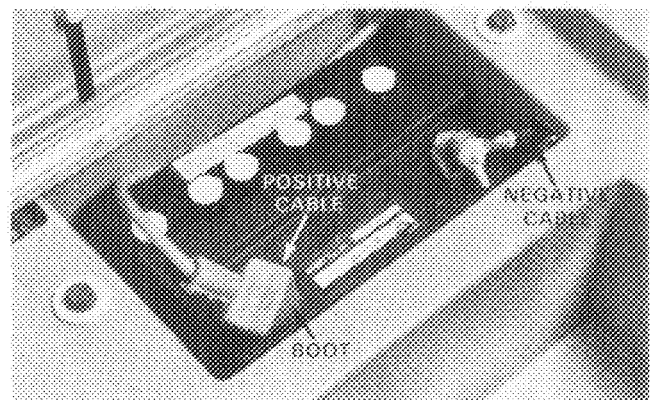

Figure 6
7. Install the positive cable (rubber boot over end) to the positive (+) terminal and the negative cable (black) to the negative (−) terminal of the battery and secure with capscrews and wing nuts. Slide the rubber boot over the positive terminal to prevent possible short-out from occurring (Fig. 6).